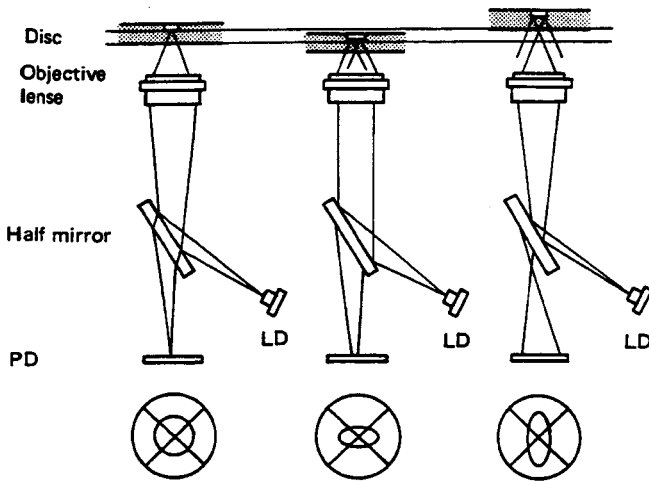
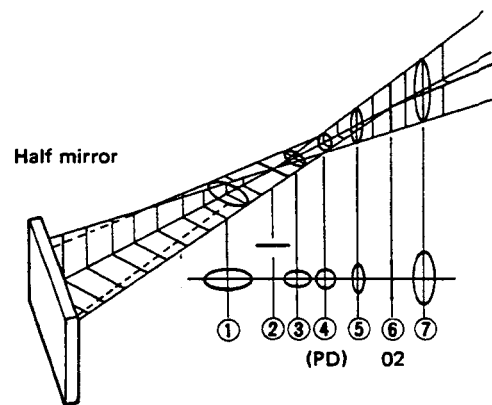

Fig. 2-3
Fig. 2-4 Half mirror
Fig. 2-3 shows how the focus signal is detected. (1) is when the beam from the laser diode is accurately focused on the disc by the objective lens. (2) shows what happens when the disc comes closer to the pickup and (3) shows what happens when the disc moves farther away. The grating and concave lens, which have no direct effect on the focusing are not shown in the diagram.
In case (1), the beam emanating from point O1 is reflected and diffracted on the disc surface to produce the condensed beam (O2). In case (2), the beam is directed at a point farther than that of beam O2. Fig. 2-4 shows the properties of the half mirror. 1 through 7 shows the shape of the beam at each point. Between points 2 and 6, which are in a straight line, the beam is circular at point 4. Point 6 corresponds to beam O2 of fig. 2-3. If we assume that fig. 2-4 shows mode (1) of fig. 2-3, that means the beam is circular because the photo diode is located at point 4. In mode (2) of fig. 2-3, the location of the photo diode is closer to the cylindrical lens than it was in fig. 2-4. That means the shape of the beam is the same as that of point 3 (an ellipse that has a longer width than height). In mode (3) of fig. 2-3, the shape of the beam is that of point 5, an ellipse that has a longer height than width.
These beam shapes are shown in fig. 2-3. By performing a  $(A + C) - (B + D)$  computation using the  $\lambda$ -D photo diode quartering elements, the focus signal is produced.
If the objective lens is moved closer to the disc until point 7 of fig. 2-4 is reached, the shape of the beam at the photo diode becomes an ellipse that is higher than it is wide.